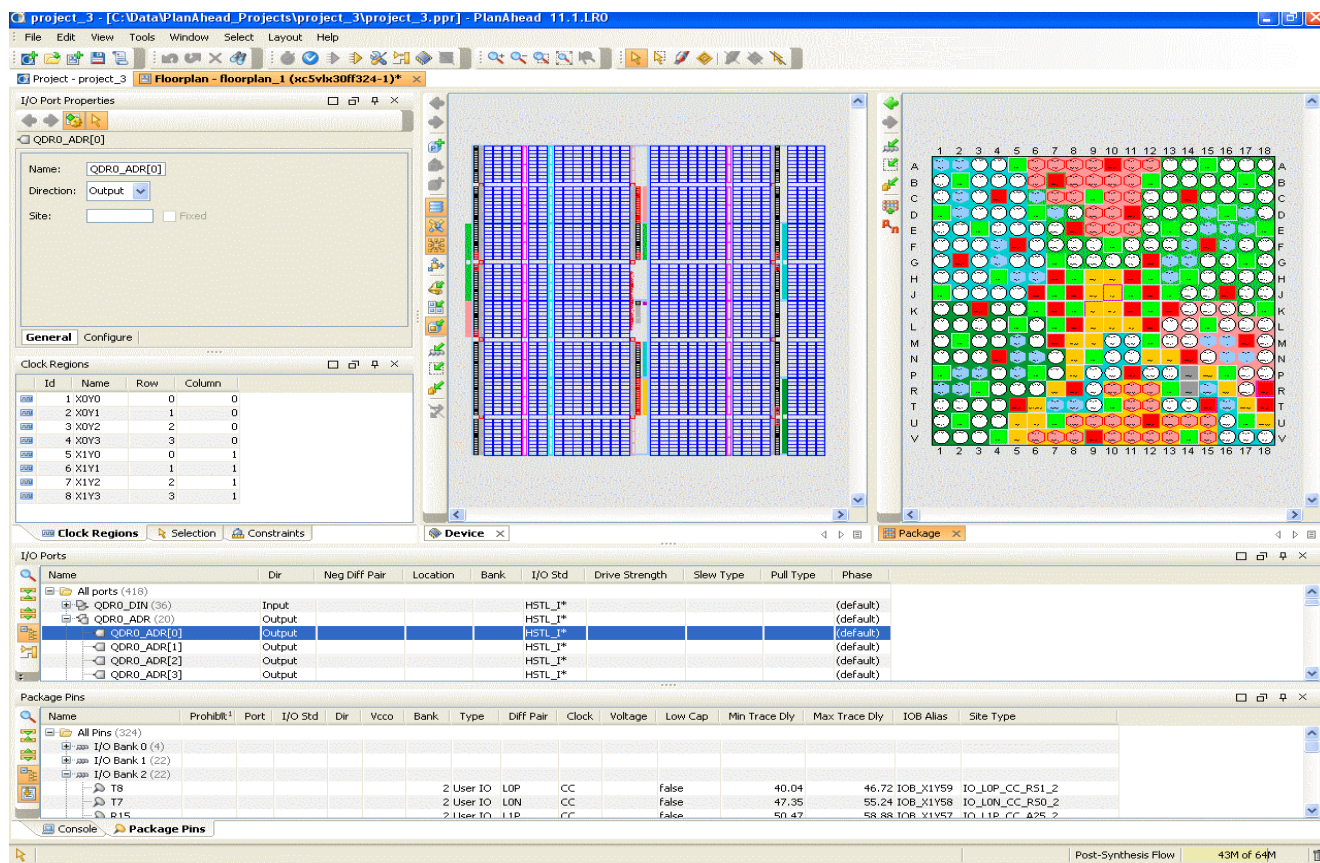

Figure 5-1: PinAhead Environment
- Create a new empty Project using the New Project wizard as shown in Figure 5-1, page 128.